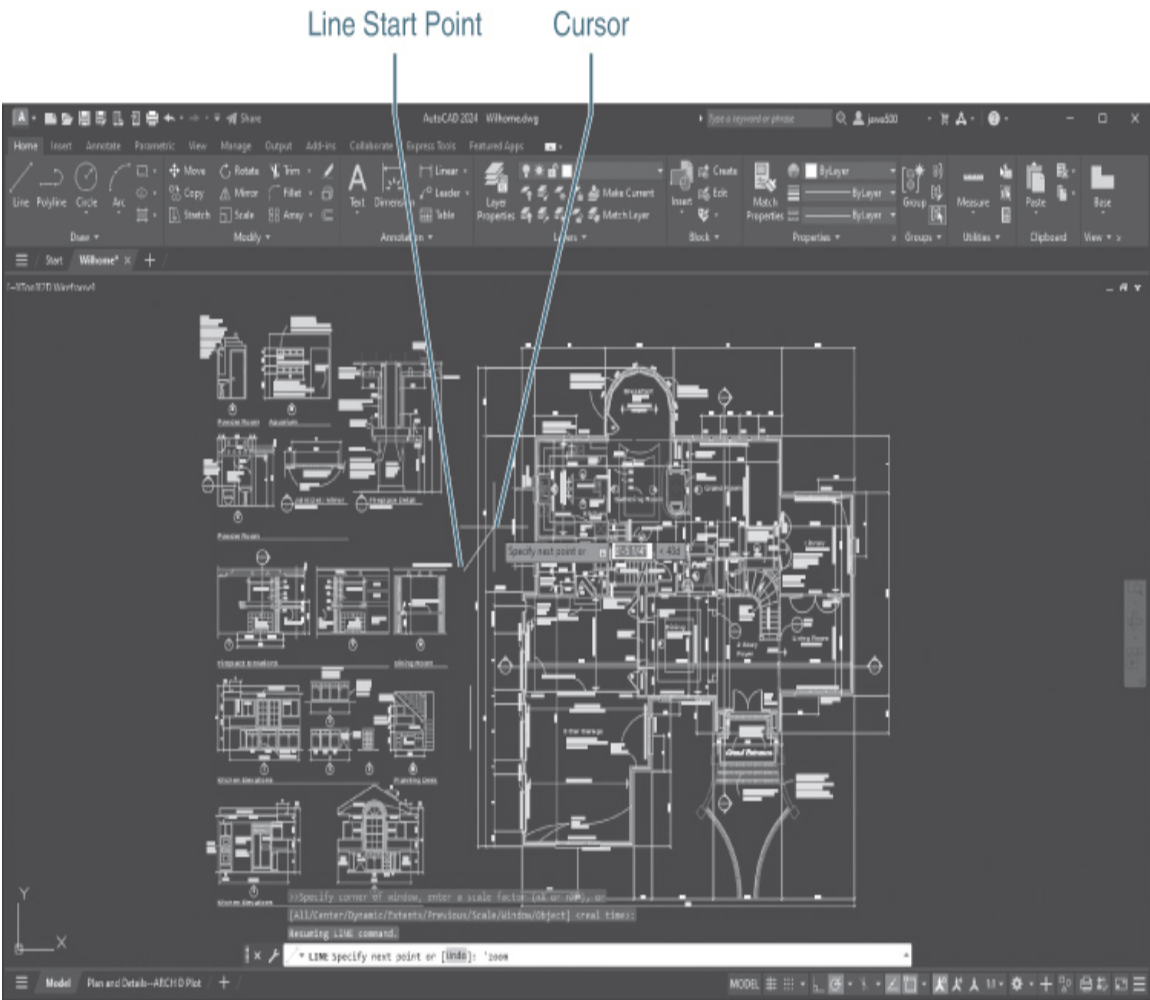
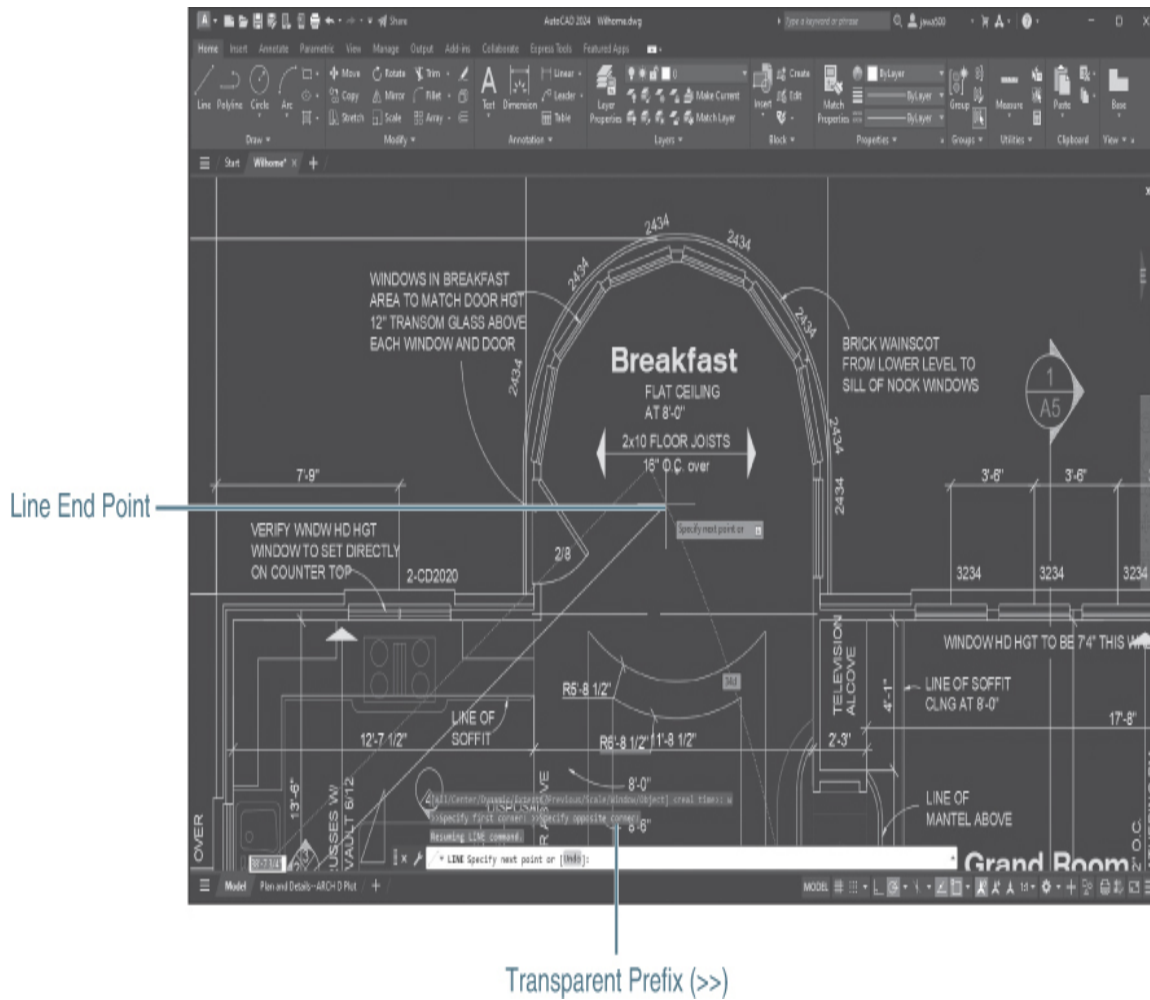

Figure 3-13
Figure 3-14
This capability enables you to pan and zoom in the middle of drawing or editing. For instance, you can begin drawing a line by selecting the first point in an overall view (see Figure 3-13), use the **Zoom Window** tool to zoom closer to your work, and select the endpoint (see Figure 3-14).
Check out the command line window in Figure 3-14. When you are prompted for the corner points to define the window area, both prompts are preceded with double arrows (>>) to indicate the command is transparent. After the zoom process is complete and control passes back to the **LINE** command, AutoCAD displays the following prompt at the command line:
- 4 Pick a point in your drawing to begin the line (see Figure 3-13).
- 7 Exit out of the **ZOOM** or **PAN** command. AutoCAD prompts you to select the next point of the line (see Figure 3-14):